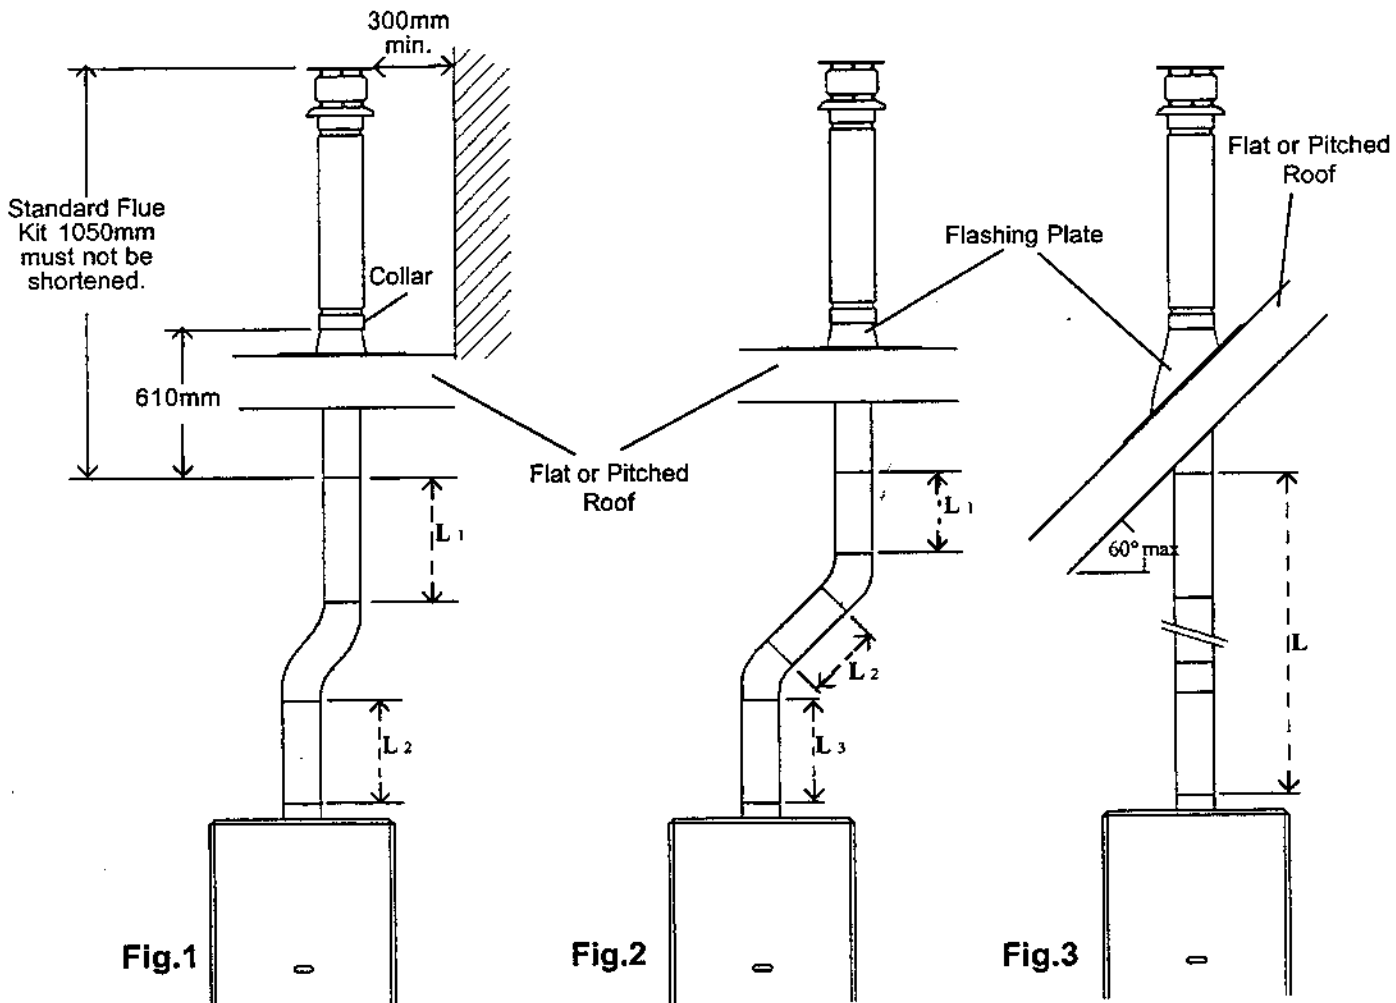

Fig.1
The Vokera Room sealed vertical flue terminal assembly is intended for use where a horizontal flue outlet is not possible or desired. It can be used with either a flat or pitched roof (max pitch 60 Degrees)(see figs 1,2, & 3). The vertical flue assembly consists of an annular co-axial combustion air intake, with a specially designed terminal fitted to the top. As supplied the flue assembly is 1050mm long overall and must not be cut to shorter dimensions, but may be extended using 850mm long extension tubes Part No. 026 (G.C. No 370 346) or 1700mm extension tubes part no. 016 to a maximum overall dimension of 4.4metres. Where a straight flue run is impossible due to an obstruction the flue may be offset using fixed offsets (100mm) Part No. 060 (G.C. No 301 108), 45 Degree bends Part No 059 (G.C. No 301 107) or 90 Degree bends Part No. 02 (G.C. No 301 104). If either a fixed offset or a pair of 45 Degree bends are used the maximum permissible flue height is reduced by 850mm. (See 3.4.4). If a pair of 90°
2. Ensure that the maximum permissible flue length is not exceeded and that allowance has been made for any bends or offset used. (figs 1,2 & 3)
12. Measure the distance L between the inner flue tubes, or offset/bends (figs 1,2&3). Using the list below determine how many extension tubes are required.
18. After making the last joint to the flue terminal assembly ensure that the collar on the outlet tube is still fully located over the edge of the flashing plate to give a waterproof seal. (fig.1) Trim the last section of the extension if necessary.